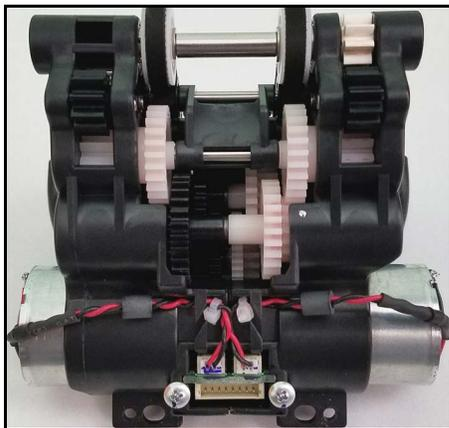

Figure 1 Motor and Gear Unit, iVZ-SH (P/N 239528)
**Usage:** Stacking banknotes into a high-capacity cash box requires more torque than a 500 or 900 note cash box. The iVIZION®-101 SH Unit has a Motor Gear Assembly (Figure 1) designed for use with the 3000 note horizontal stack cash box to provide increased stacking power and reliable performance. This is the only Motor Gear Assembly approved to be used in the iVIZION-101 SH Unit.